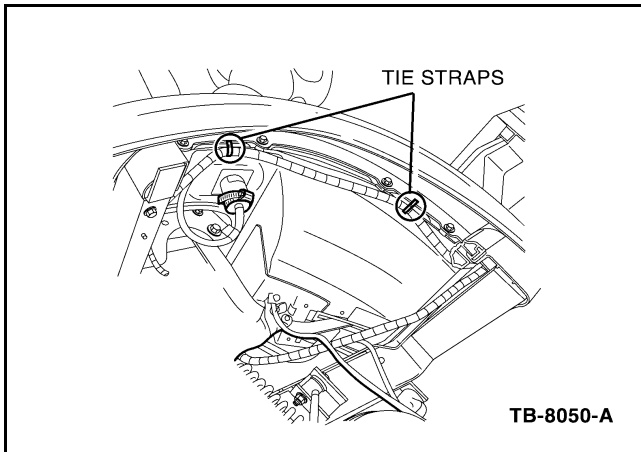

Figure 9 - Article 04-24-9
3. Route the AC cord as illustrated and secure with two (2) large tie straps (Figure 9).